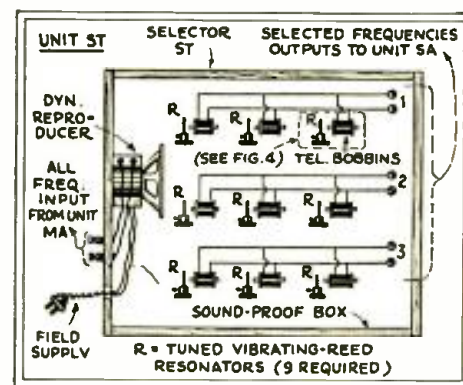

Fig. 3
The output of the "mike" amplifier (MA, Fig. 2) is connected directly to the voice coil of a small dynamic reproducer, mounted within a sound-proof wooden box (ST) containing nine differently tuned vibrator reeds. There are nine electromagnets, one in front of each vibrator reed; three of them being connected in parallel on each of the three electrical circuits, as shown in Fig. 3.
One of the units rectifying the output of a selector unit (Fig. 3).